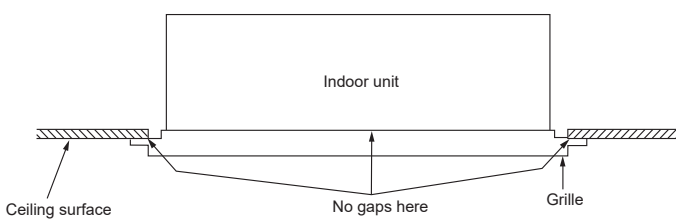
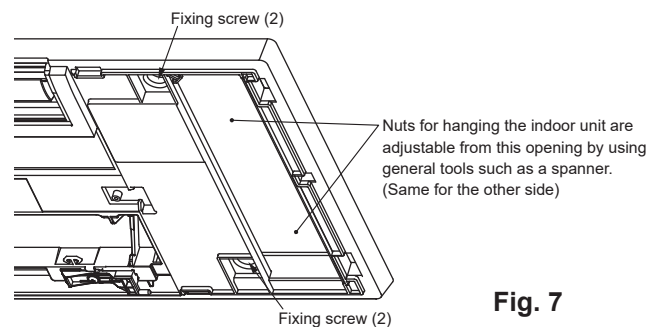

Fig. 6
Fig. 7
8. Tighten the 4 fixing screws (2) near the corners installed in step 6.
- Otherwise, air may escape from the gap, resulting in water dripping from the indoor unit. (Fig. 6)**
- Note: Make sure that the fixing screws (2) and (3) are tightened completely.
- Clear the gap by adjusting the installation height of the indoor unit with the grille installed. (Fig. 7)